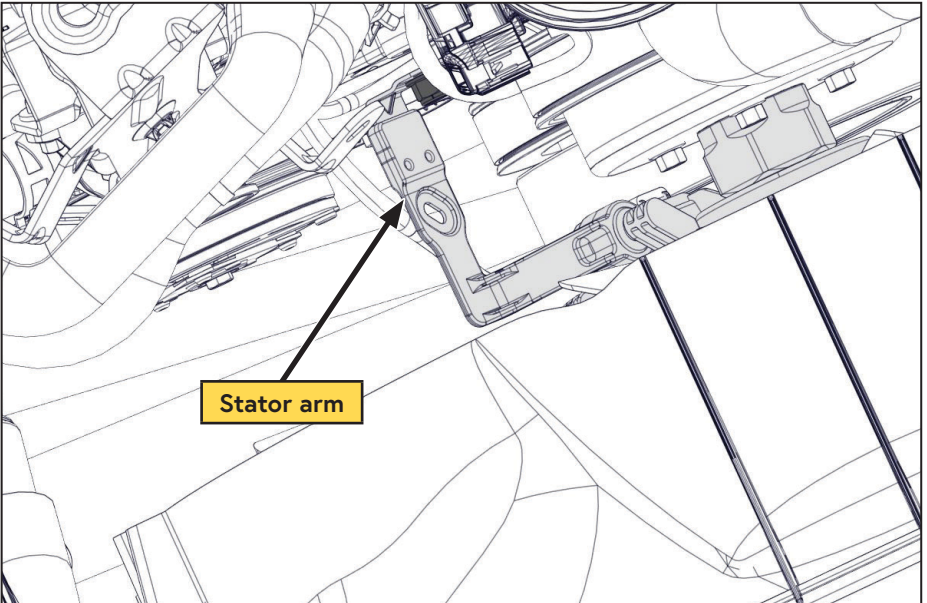

Figure 8 — Remove fan clutch stator arm
- Remove the fan clutch stator arm (Figure 8).